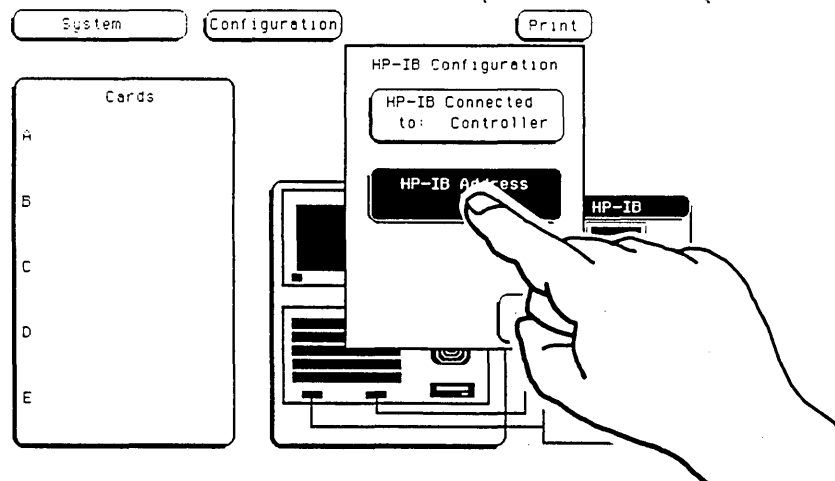

Figure 2-6. HP-IB Configuration Menu.
2. Touch **HP-IB** field to call up the HP-IB Configuration Menu (see figure 2-6).